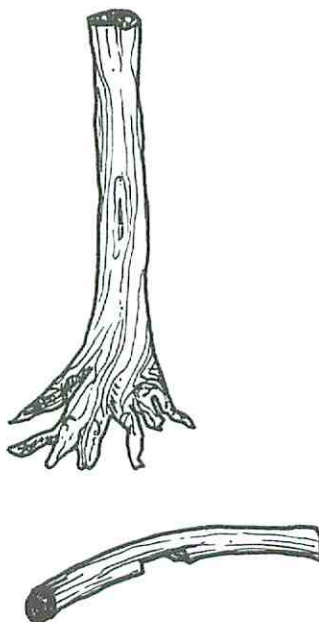

Figure 1
Take the pieces you've chosen for your spine (A) and back support (B). Notch the back support where it will attach to the spine. See Fig. 1. Pre-drill holes and secure the two pieces together with a lag bolt.